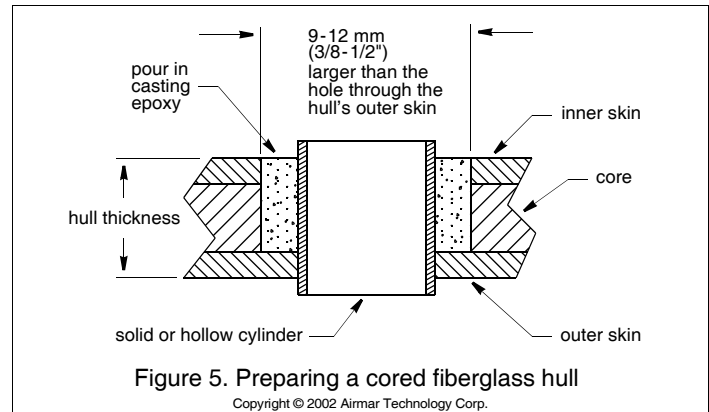

Figure 5. Preparing a cored fiberglass hull
2. Using a 51 mm or 2" hole saw, cut the hole from outside the hull through the *outer skin* only (Figure 5).